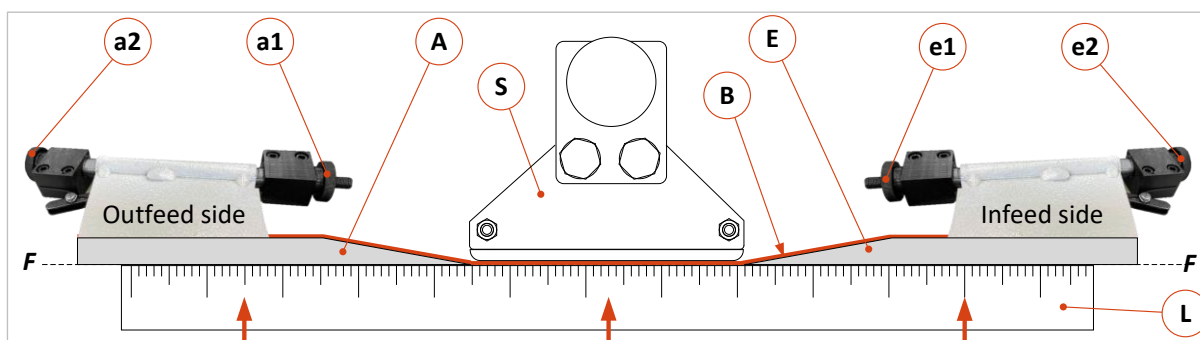

Figure 25: Calibrate veneer fences to zero position
**Adjustment aid:** Use a ruler (L) to orientate the zero position and place it from the front against the sanding belt (B) in front of the sanding pad (S) as shown in ⇒ Figure 25). If no ruler is at hand, move the table upwards and place the table edge horizontally towards the sanding belt (B) until it lightly touches it. To adjust the fence position, the two pairs of knurled nuts (a1) + (a2) and (e1) + (e2) are used. Depending on whether the fence plate has to be adjusted forwards or backwards, one nut serves as an adjusting nut and the other as a locking nut.
- Adjust the left veneer fence (A) of the outfeed side via the knurled nuts (a1) and (a2) so that the fence surface is in alignment (see F) with the sanding belt front face.
- Then adjust the right veneer fence (E) of the infeed side via the knurled nuts (e1) and (e2) so that the fence surface is in alignment (see F) with the front of the sanding belt.